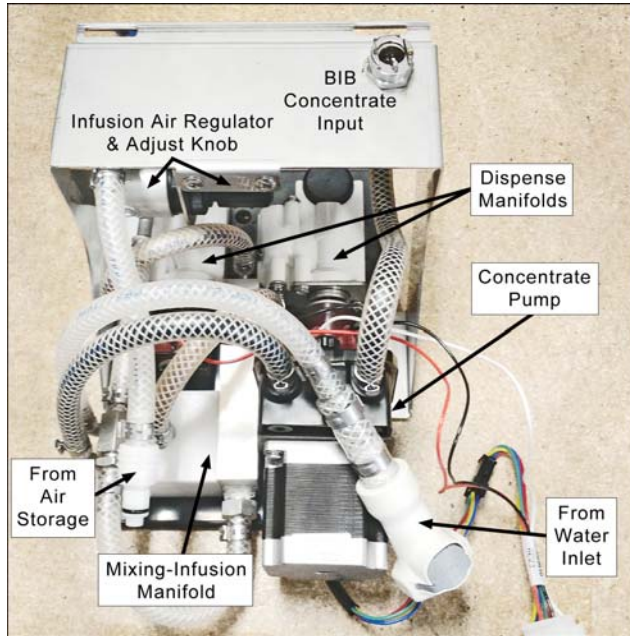

Figure 6-3 - Mixing-Dispensing Assembly in Cabinet
- 1) On the underside of the assembly baseplate, remove the screws securing the mixing-infusion manifolds (Fig. 6-3).